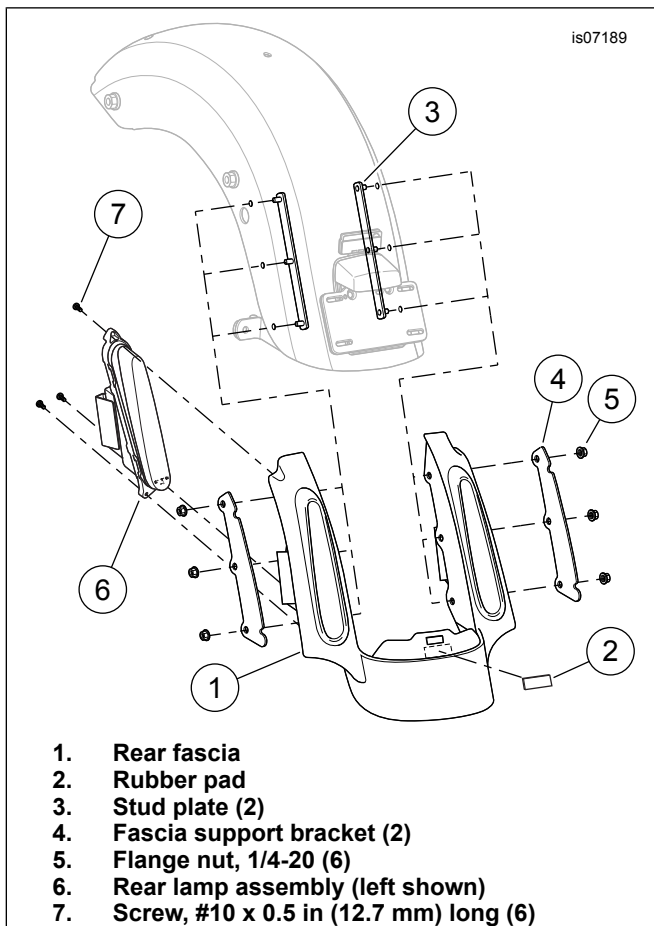

Figure 4. Rear Fascia Installation
4. See Figure 4. Remove liner from adhesive backing of 44.5 x 19 x 1.6 mm (x in) rubber pad (2).
5. Position pad to center of fascia (1), just below the slot as shown, and press firmly into place.
8. Insert three studs of a stud plate (3), from beneath fender, through fender holes and fascia on one side.
10. Loosely install three flange nuts (5) onto stud threads.